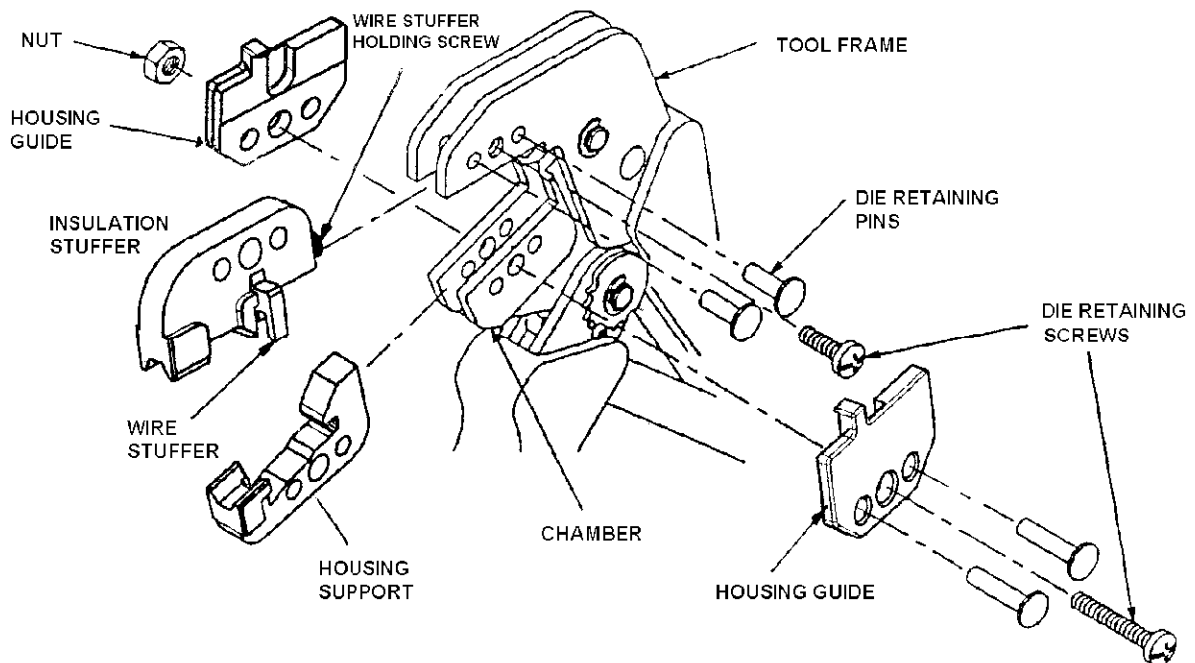

Figure 2
3. DIE SET INSTALLATION AND REMOVAL (Figure 2)
2. Place the insulation-connector shield/wire stuffer assembly as shown in Figure 2. Insert short die retaining pins and short die retaining screw through the tool frame, and tighten the screw.
3. Place housing support in the moving jaw of the tool frame as shown in Figure 2. Mount right hand housing guide using long die retaining pins, and secure with long die retaining screw. Mount left hand housing guide and tighten nut.